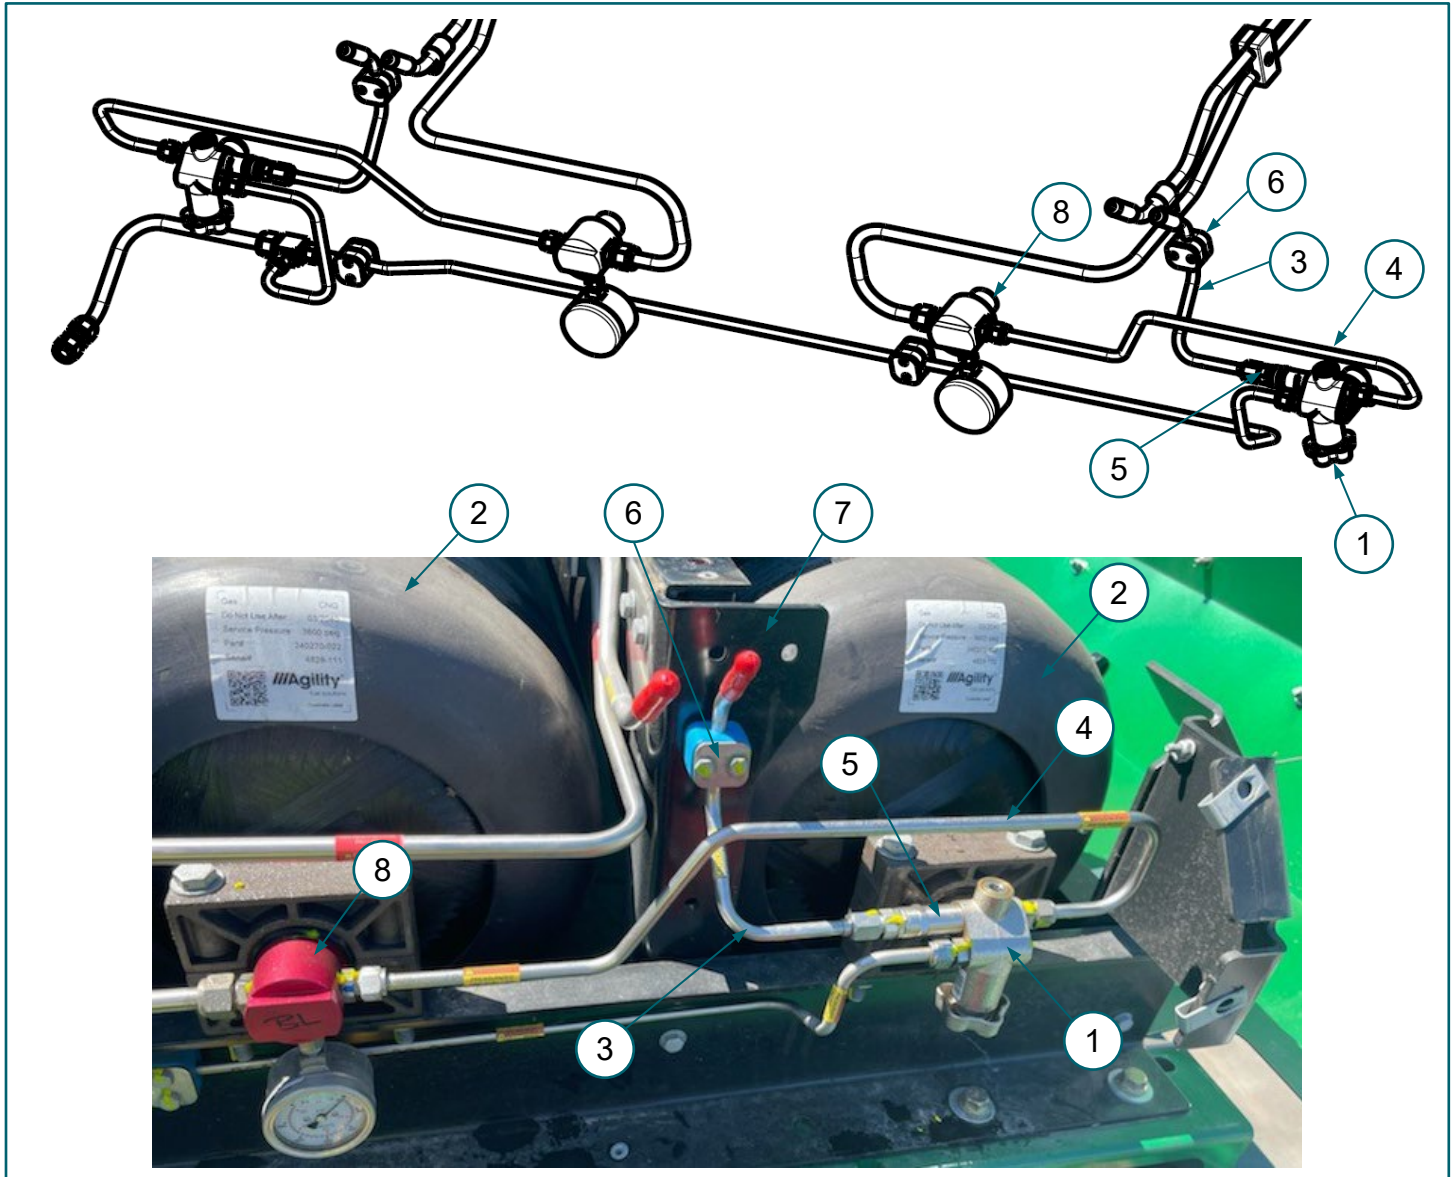

FIGURE 6. Right fuel system valve end plumbing components
12. Use a pair of 11/16-in wrenches to remove (3) right PRD vent tube nut fitting from (5) right PRD. **FIGURE 6**
13. Remove (4) live PRD tube from (1) right cylinder valve and (8) right manifold. **FIGURE 6**
14. Remove (3) right PRD vent tube from (5) right PRD. **FIGURE 6**
15. Use a pair of wrenches to remove fasteners securing (6) tube clamp and (3) right PRD vent tube to (7) structure and set fasteners and clamp aside for reuse. **FIGURE 6**
16. Remove (5) right PRD from (1) right cylinder valve. **FIGURE 6**